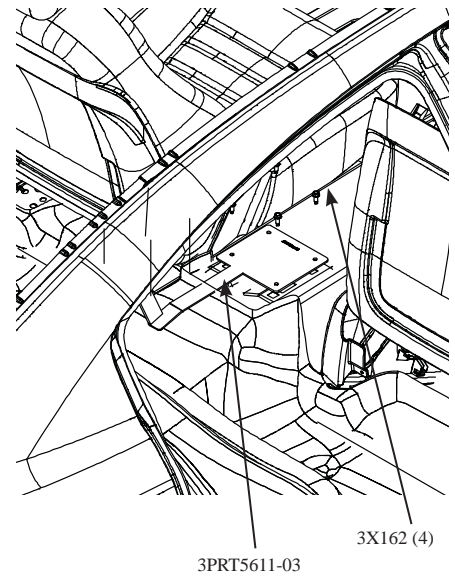

Fig. 12
- B. Install the center hump mount bracket (3PRT5611-03) using the OEM console mount tabs, secure with the included Screws (3X162). (See Fig. 12)